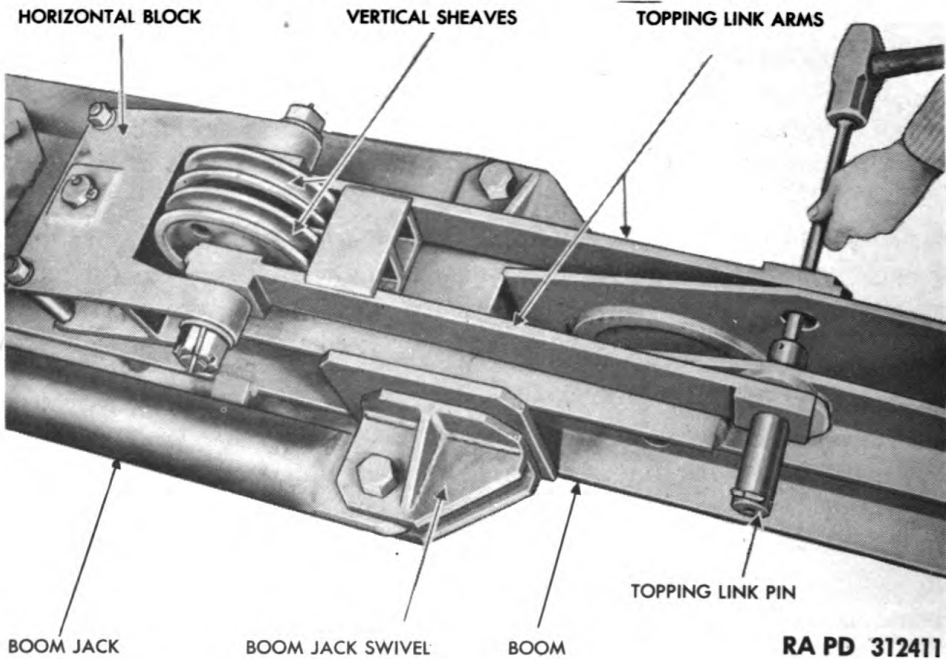
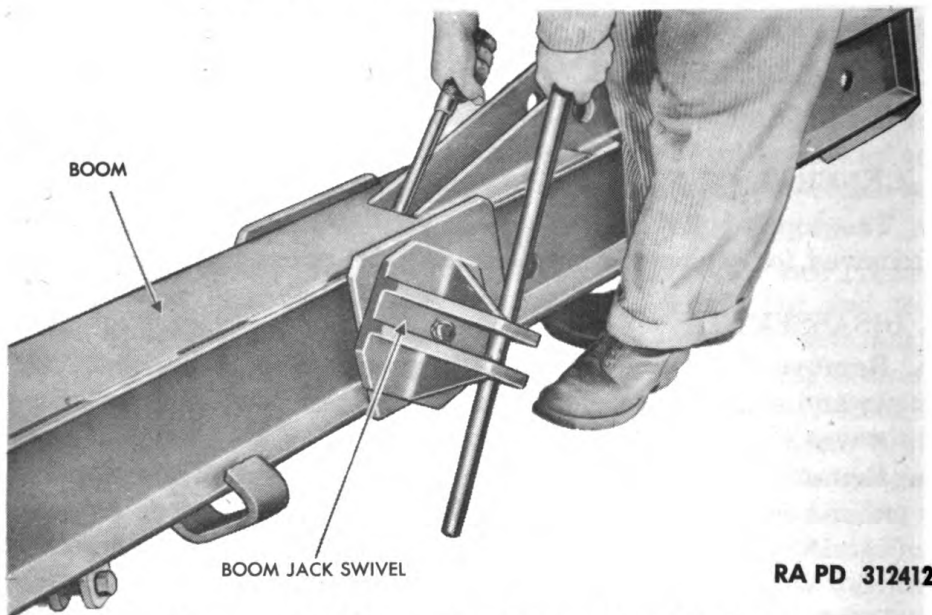

Figure 16 — Removing Topping Link
Figure 17 — Removing Boom Jack Swivel
b. **Remove Topping Link.** Remove the cotter pin from topping link pin and drive pin out of topping link arms and boom center member (fig. 16). Lift off topping link with horizontal sheave block installed.
d. Remove Boom Jack and Upper Swivel. Remove cotter pin and remove 1¼-inch castellated nut and bolt securing boom jack to upper swivel (fig. 16). Lift the jack free of the upper swivel. Remove cotter pin and castellated nut from the upper swivel pin and pull swivel outward free of boom (fig. 17).